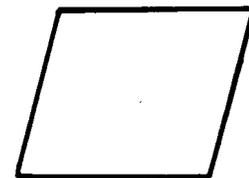

Fig. 1—Basic Input/Output Symbol
1.06 The Bell System Flowcharting Template No. 38-Y-3991A, illustrated on Fig. 28, will produce the symbols shown on Fig. 1 through 23 and may be obtained from the Western Electric Company. NMA Template MS-107 will produce the micrographic symbols shown on Fig. 24 through 27.
2.01 *The basic input/output symbol* (Fig. 1) represents an input/output function (I/O); that is, the making available of information for processing (input), or the recording of processed information (output). This symbol should be used when the media on which the input/output data is recorded is not known at the time of flowchart preparation or is immaterial to the purpose of the flowchart.